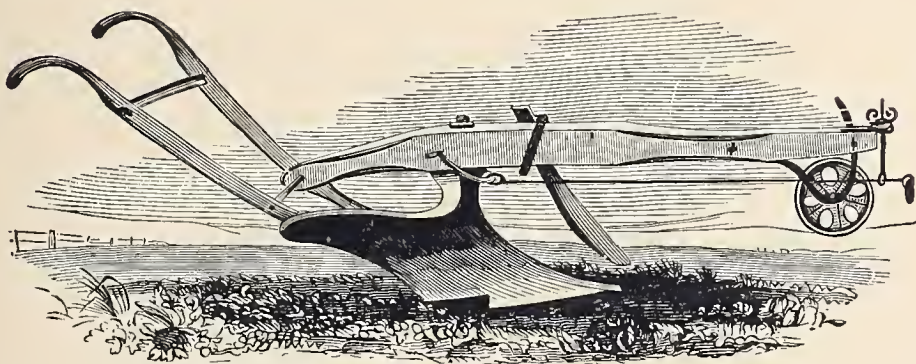

Fig. 298.—Prouty & Mears' Plow, No. 25.
**No. 25**, represented by *Fig. 298*, is a two horse or cattle sod and stubble plow, and is very popular for general use.